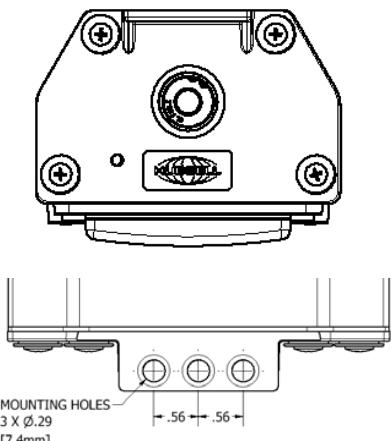

Figure 3
A. The LALFP end caps have provisions for surface or suspension mounting. (See Figure 3)